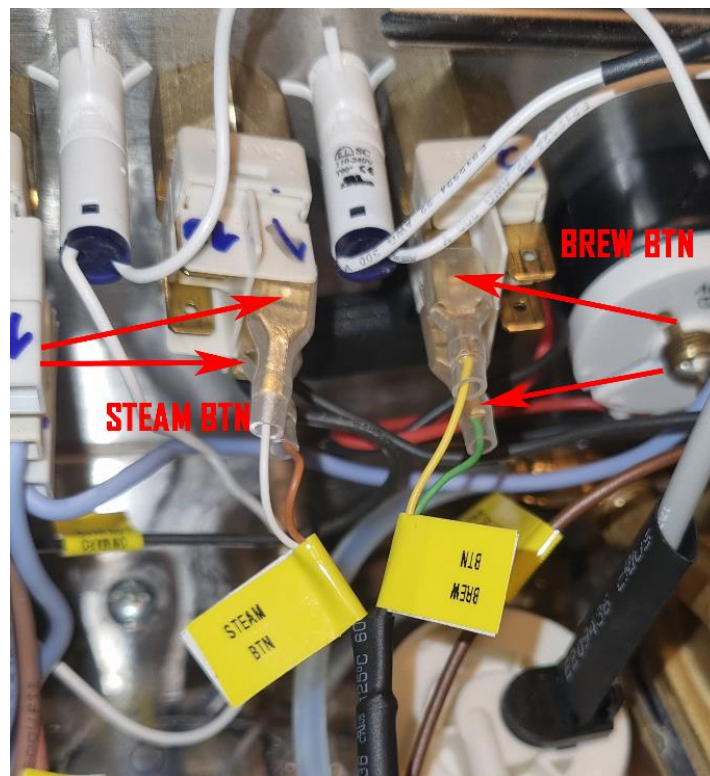

Fig. 7.3
- Take the BUTTON CABLE plugs and connect them to buttons panel. STEAM BTN to Steam button connections and BREW BTN to brew button connections (fig. 7.3)